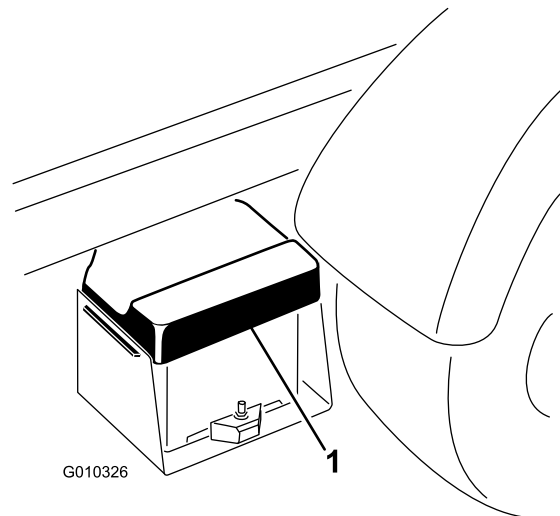

Figure 39
1. Squeeze the battery cover to release the tabs from battery base. Remove the battery cover from the battery base (Figure 39).